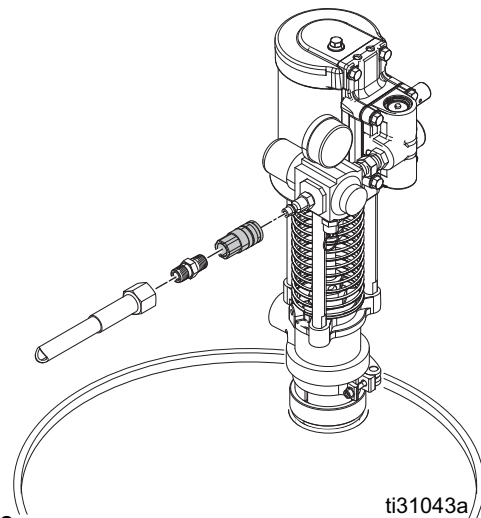

FIG. 9
6. Install air line (3/8 in. (9.5 mm) ID minimum) with quick disconnect air coupler provided. See FIG. 9.